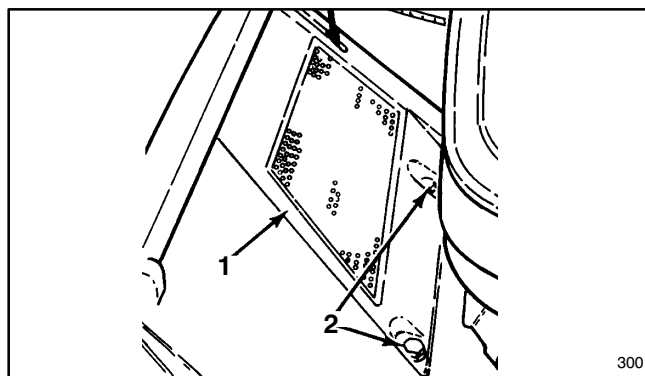

Figure 30
2. Remove (2) screws securing screen panel to top of mower housing (Fig. 30). Remove panel.